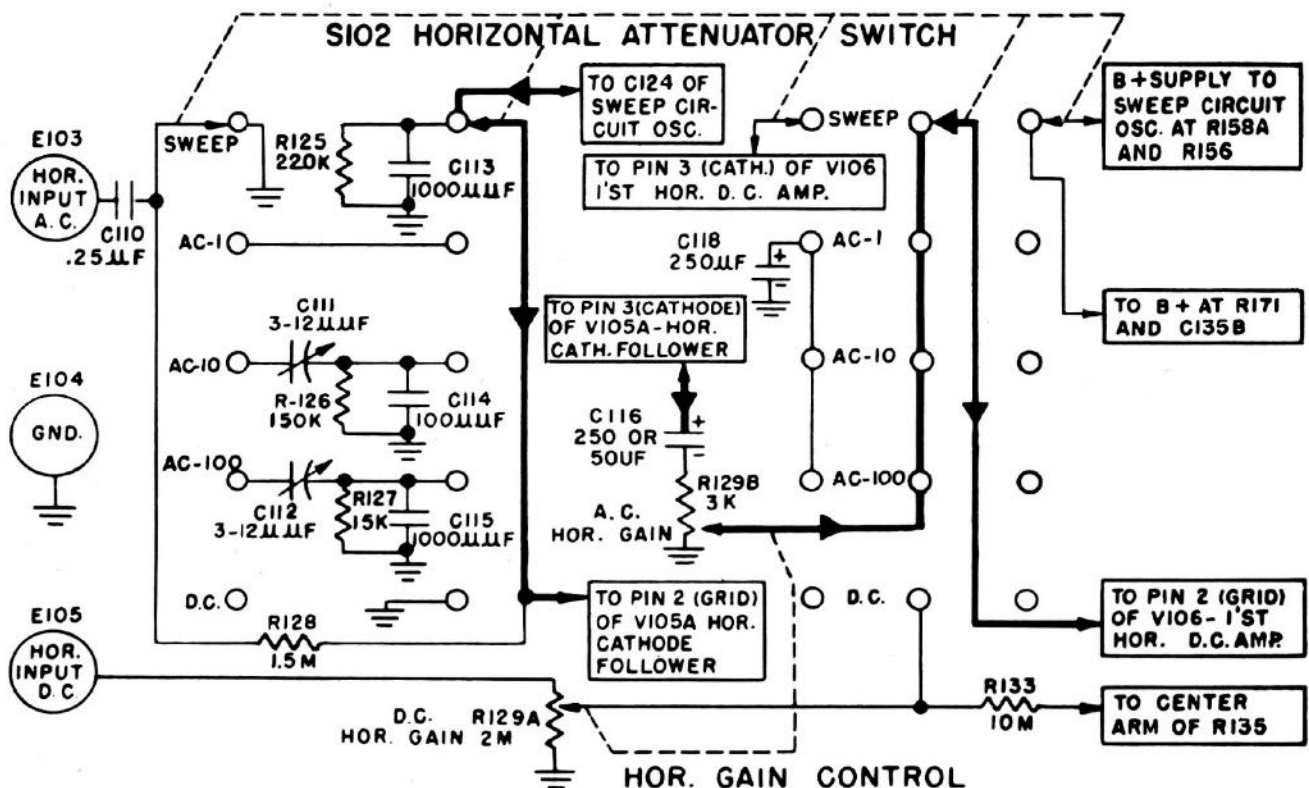
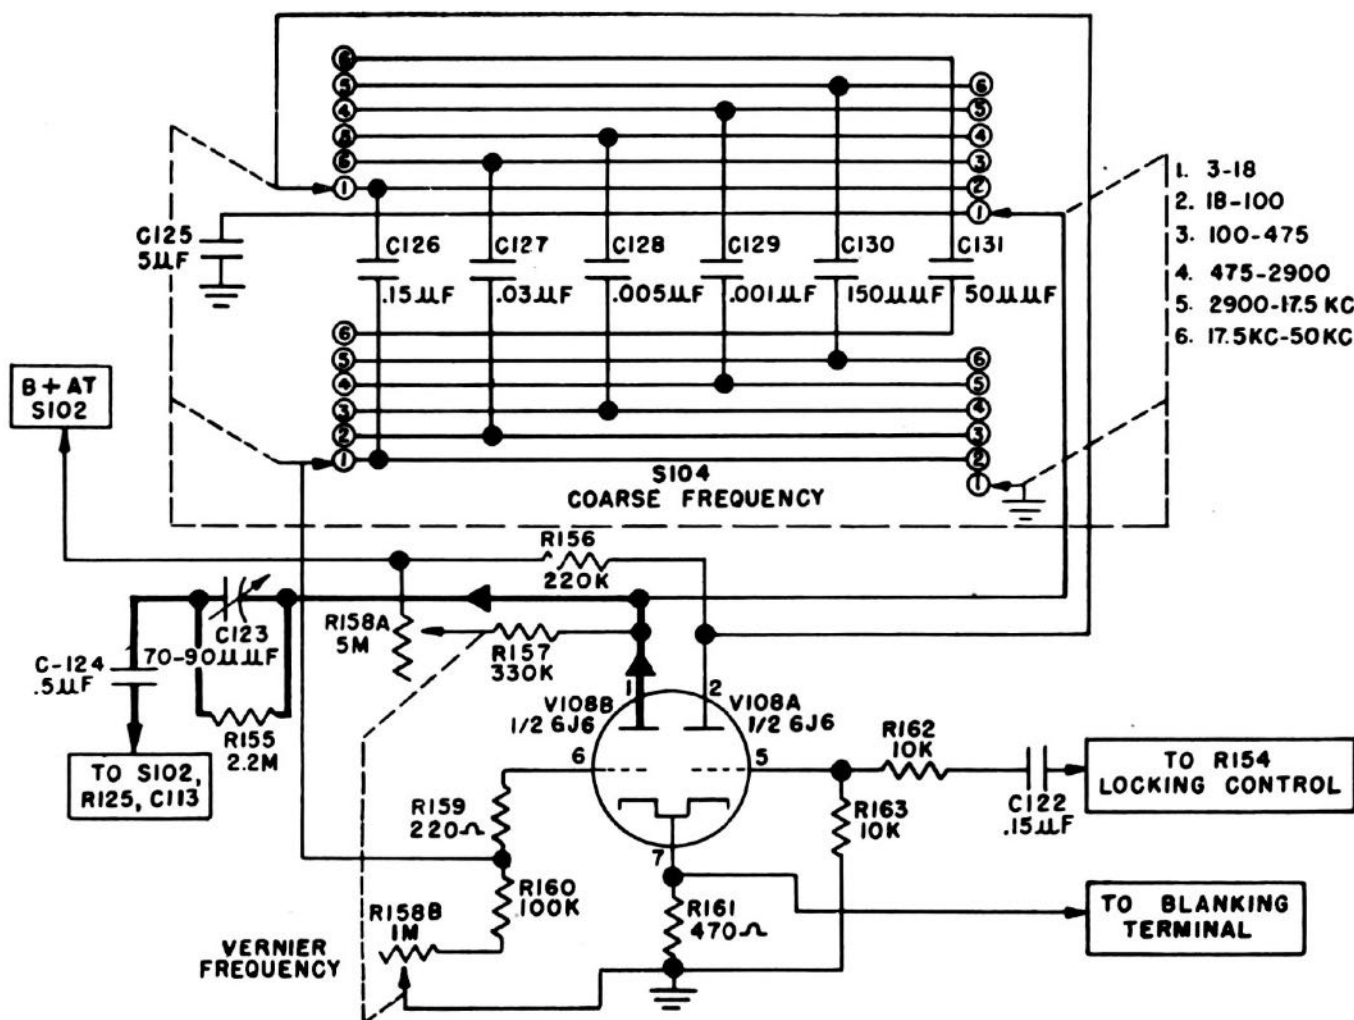

Figure 2-5. Horizontal Input Attenuator
Figure 2-8. Sweep Circuit Oscillator
(1) HOR. ATTEN. and HOR. GAIN. (See Figure 2-5)
c. SWEEP CIRCUIT OSCILLATOR. (See Figures 2-8 and 2-8A)
A cathode coupled, multivibrator circuit utilizing a type 6J6 tube, V108, is used as the horizontal sawtooth oscillator and operated over a frequency range from 3 to 50,000 cycles per second. This range of frequencies is controlled by the COARSE FREQUENCY switch, S104, utilizing capacitors C125 through C131. These capacitors act alternately and respectively as sawtooth generating capacitors for the second triode section, V108B, and as coupling capacitors for the first triode section, V108A, to the second triode section of the multivibrator. In the position shown in Figure 2-8, C125 is used as a sawtooth capacitor while C126 is the coupling capacitor.
V108B through the frequency compensated voltage divider consisting of R155 shunted by C123 (Fig. 2-8) and R125 shunted by C113 (Fig. 2-5), and decoupled by capacitor C124. This sawtooth signal is applied to the horizontal cathode follower through HOR. ATTEN. S102 when set to the "SWEEP" position. The high frequency linearity of the sawtooth may be adjusted with capacitor C123 in the frequency compensated dividing network.